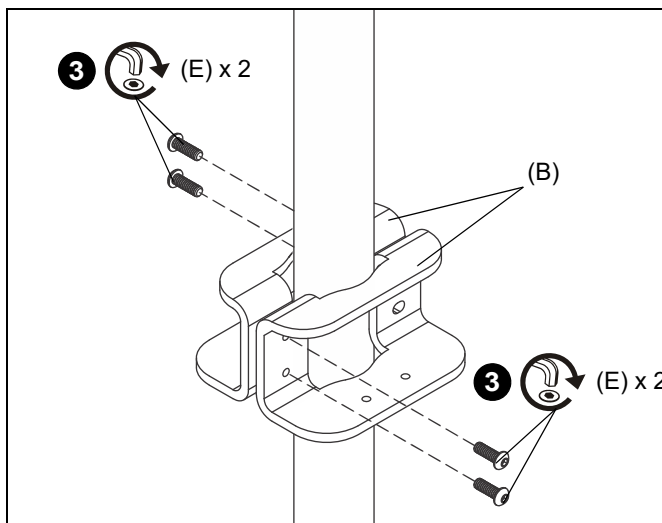

Figure 2
3. Attach two clamps (B) to installed column using four 1/4-20 x 3/4" button head cap screws (E), two through each clamp. (See Figure 2)